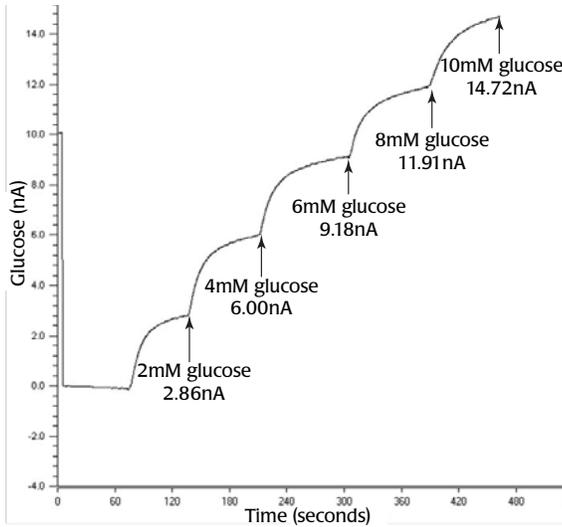

Fig. 17—Calibration plot showing five aliquots of 2M glucose injected into PBS solution
8. Repeat step 7 another three times. A typical calibration plot looks similar to the one shown in Fig. 17.